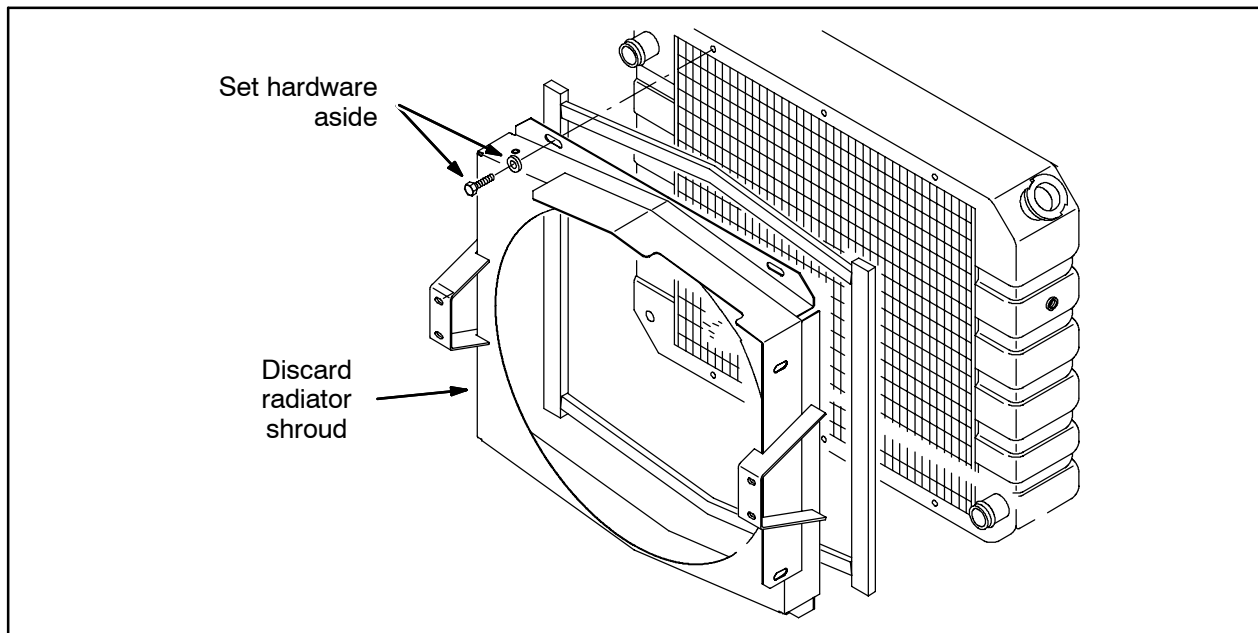

FIG. 4
5. Remove the radiator shroud from the radiator. Set all mounting hardware aside. Discard the radiator shroud. Refer to Fig. 4.
9. Install the radiator shroud (1) onto the radiator. Refer to Fig. 4.